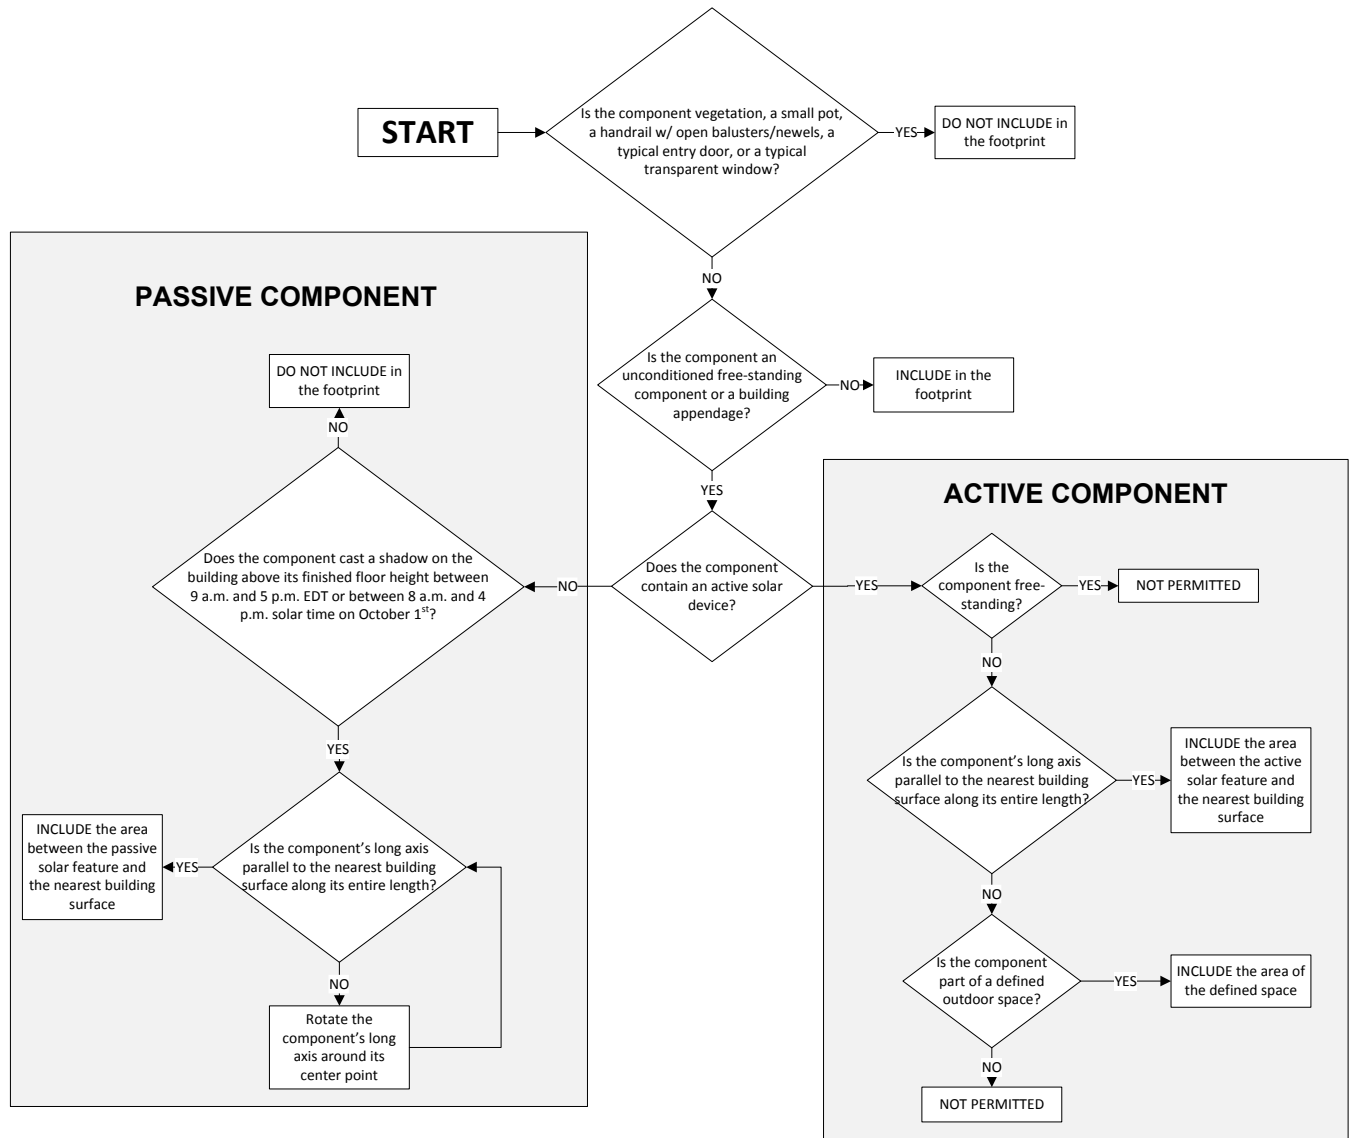

Figure 3: Architectural footprint analysis flow chart
- f. Figure 3 may be used to determine if a particular component is included in the footprint.